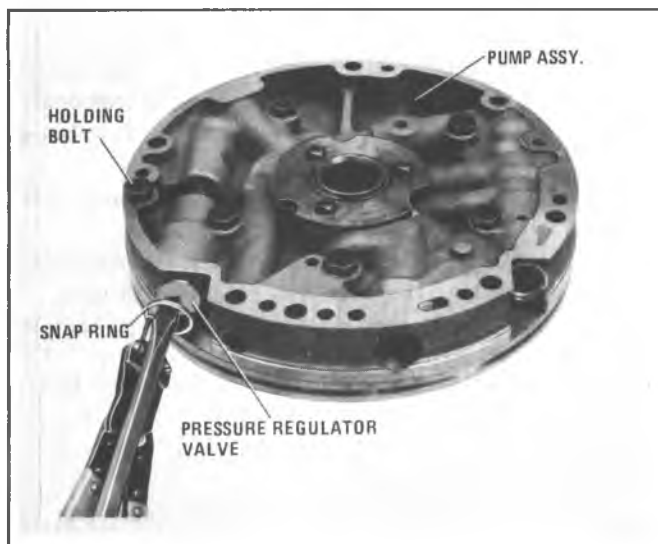

Figure 7A6-203 Removing Pressure Regulator Valve Snap Ring
2. Using a small screwdriver, push on the T.V. boost bushing, compressing the pressure regulator spring; and using snap ring pliers, remove the retaining snap ring (Figure 7A6-203).